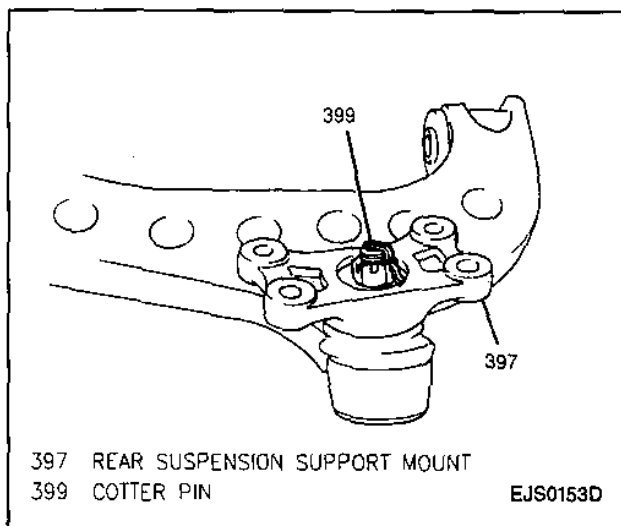

Figure 16—Cotter Pin
7. Cotter pin from ball stud (Figure 16).